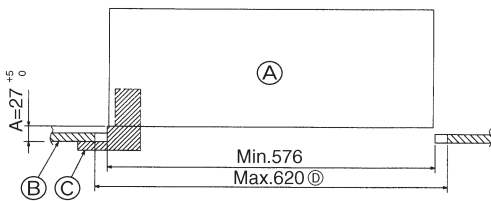

Fig. 8-2
8.2. Preparing to attach the grille (Fig. 8-2)